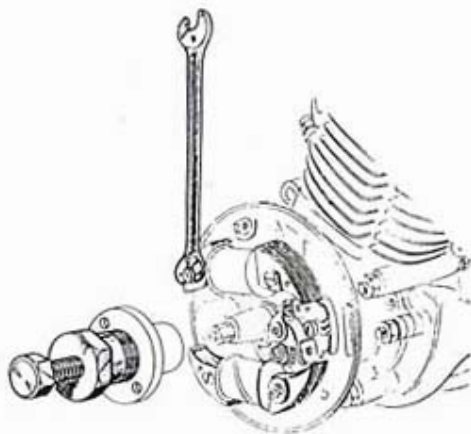

Fig. 2
- Screw on gradually and lock the self retaining nuts (8mm wrench) (fig. 2).